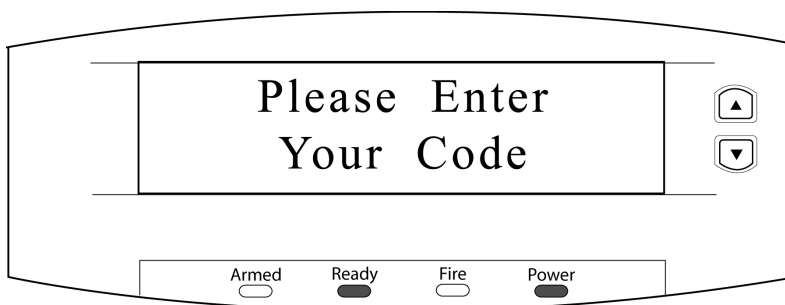

Figure 3: Alarm Panel - Enter Code
2. To enter the alarm panel programming mode, select the ***** **8** keys. The alarm panel keypad will beep three times then prompt for the programming code (see Figure 3).